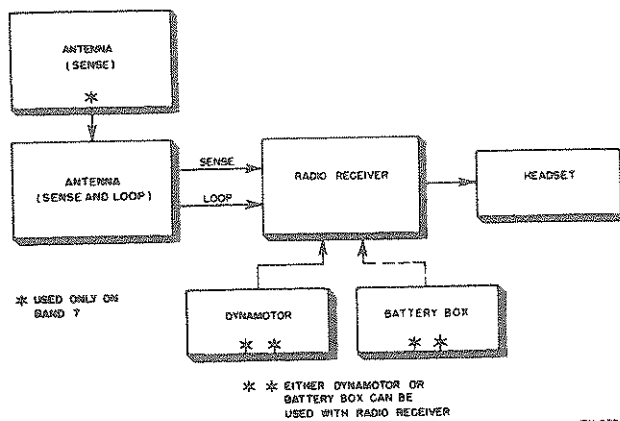

Figure 3. Direction Finder Set AN/PRD-1, simplified block diagram.
b. The functioning of the equipment is shown by the simplified block diagram (fig. 3). The radio-frequency (rf) signal is picked up by Antenna AS-536/PRD-1 (Antenna AT-301/PRD-1